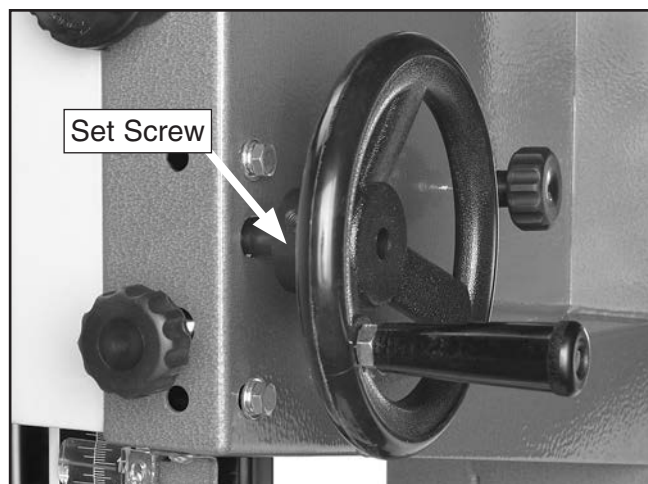

Figure 14. 6" Handwheel installed.
20. Install the 6" handwheel, as shown in **Figure 14**, by placing it on the shaft and tightening the set screw in the handwheel.